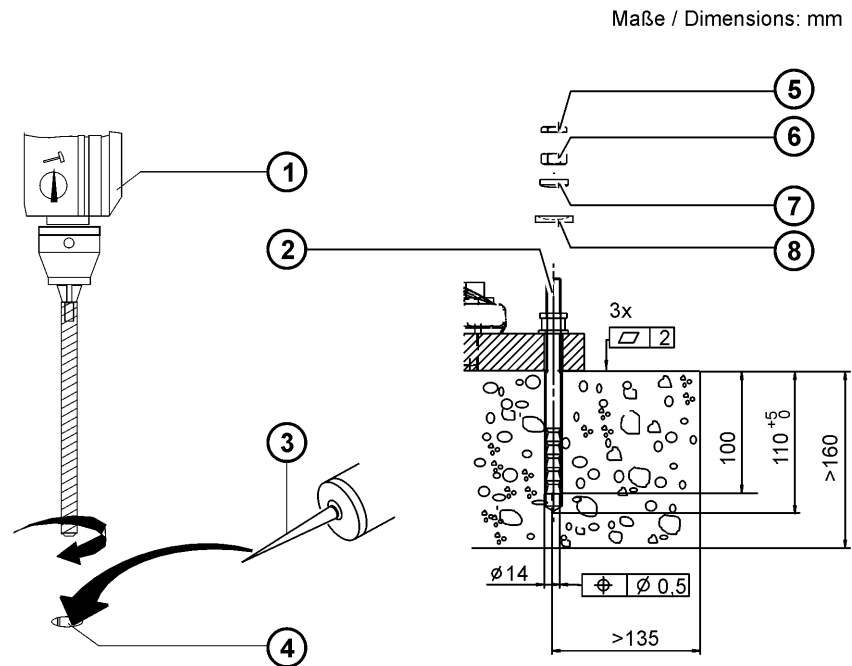

Fig. 8-2: Installation of resin-bonded anchors
6. Drill 6 anchor holes (>>> Fig. 8-2) through the holes of the bedplates into the foundation.